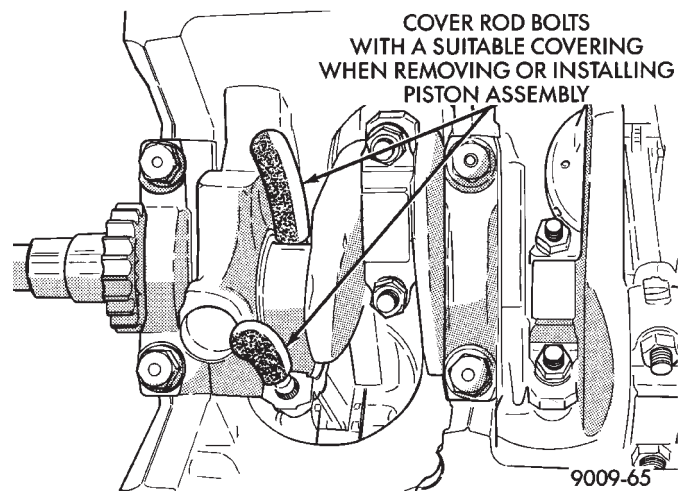

Fig. 3 Connecting Rod Protectors
(3) Remove connecting rod cap. Install connecting rod bolt protectors on connecting rod bolts (Fig. 3). Push each piston and rod assembly out of cylinder bore.